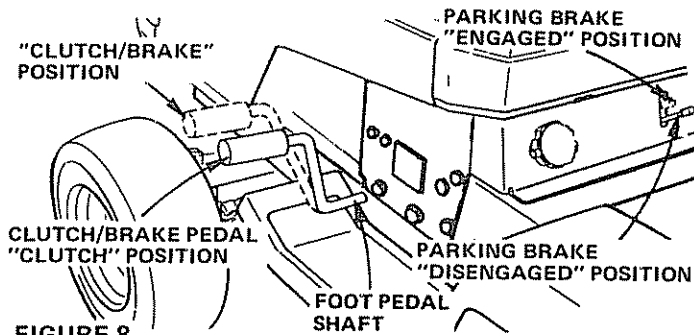

FIGURE 8
2. Push Clutch-Brake Pedal fully into brake position (Fig. 8).
2. Push Clutch-Brake Pedal down firmly (Fig. 8). Move Gear Shift Control Lever to desired gear (Fig. 9).